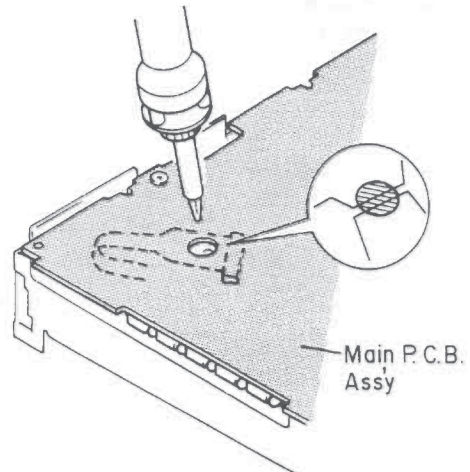

Fig. 2.4.1 Bottom View
Refer to Figs. 2.4.1 and 2.4.2.
- (1) Remove the Top Cover SL S Ass'y, Bottom Cover SL S Ass'y, and Front Panel Ass'y. Refer to item 2.3.
- (2) Short the laser diode shorting lands on the Pickup Flexible P.C.B. with a soldering iron whose metal part is grounded or with a ceramic soldering iron. Refer to Fig. 2.4.1.